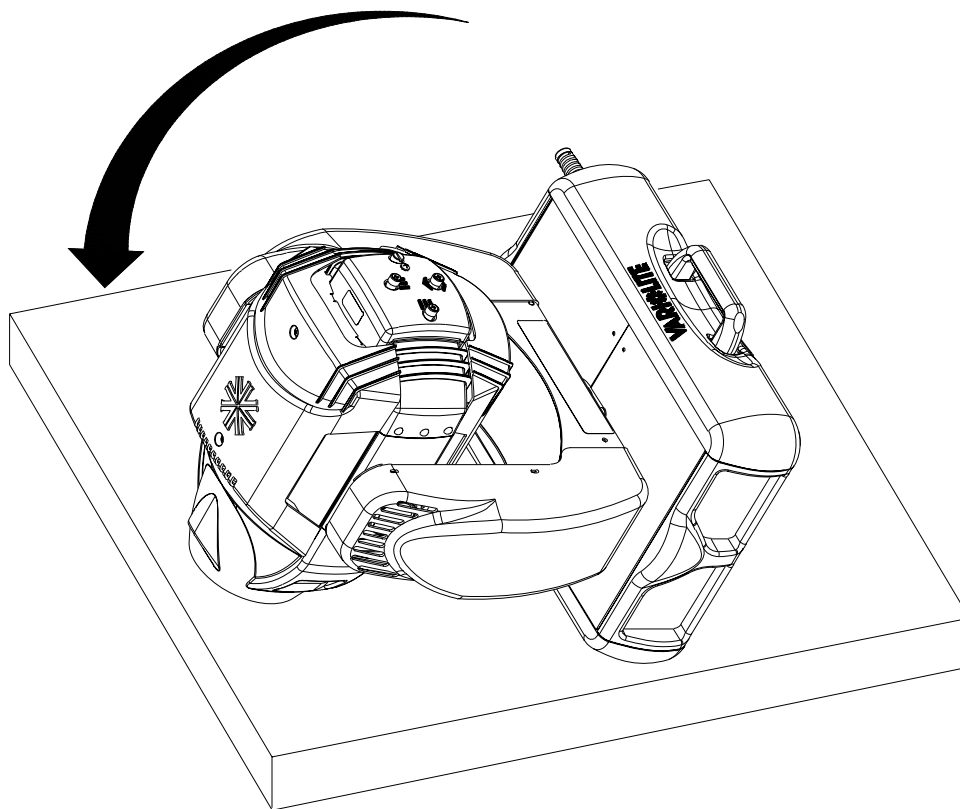

Figure 2-20: Laying Luminaire on Its Side
- Step 4. Carefully lay luminaire on its side as shown in **Figure 2-20**. Make sure that lens does not come into contact with any surface..